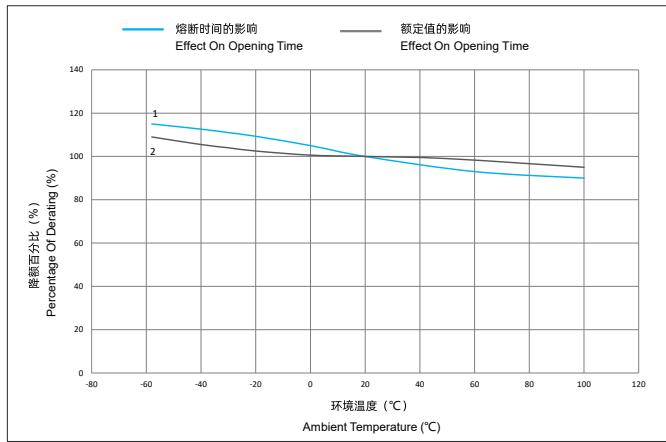

图2 FIGURE 2
- 图2表示环境温度对快速熔断型熔断器承载能力及 $5I_N$ 熔断时间的影响。
Fig.2 effect on rating and opening time in  $5I_N$  of fast acting fuse.